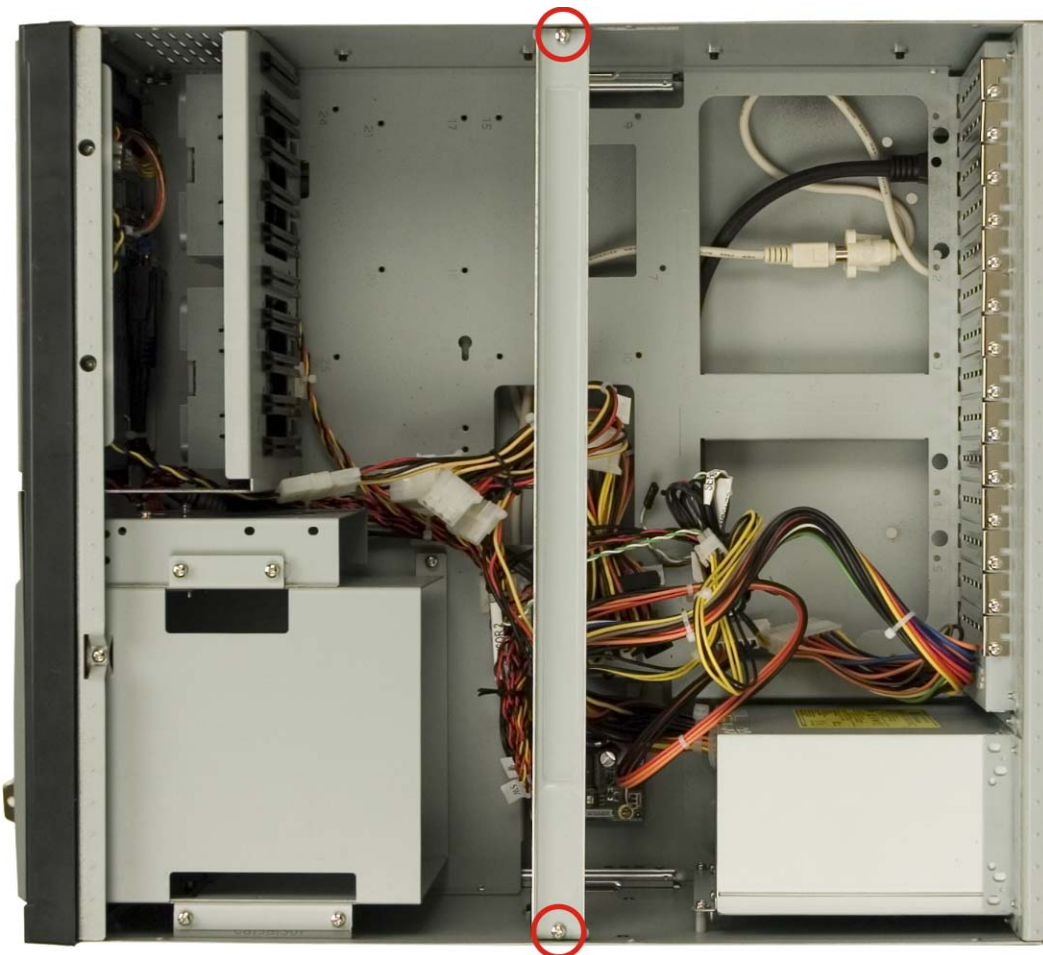

Figure 4-3: CPU Card Clamp Retention Screws
Step 1: Remove four retention screws that secure the CPU card clamp to the chassis (Figure 4-3).